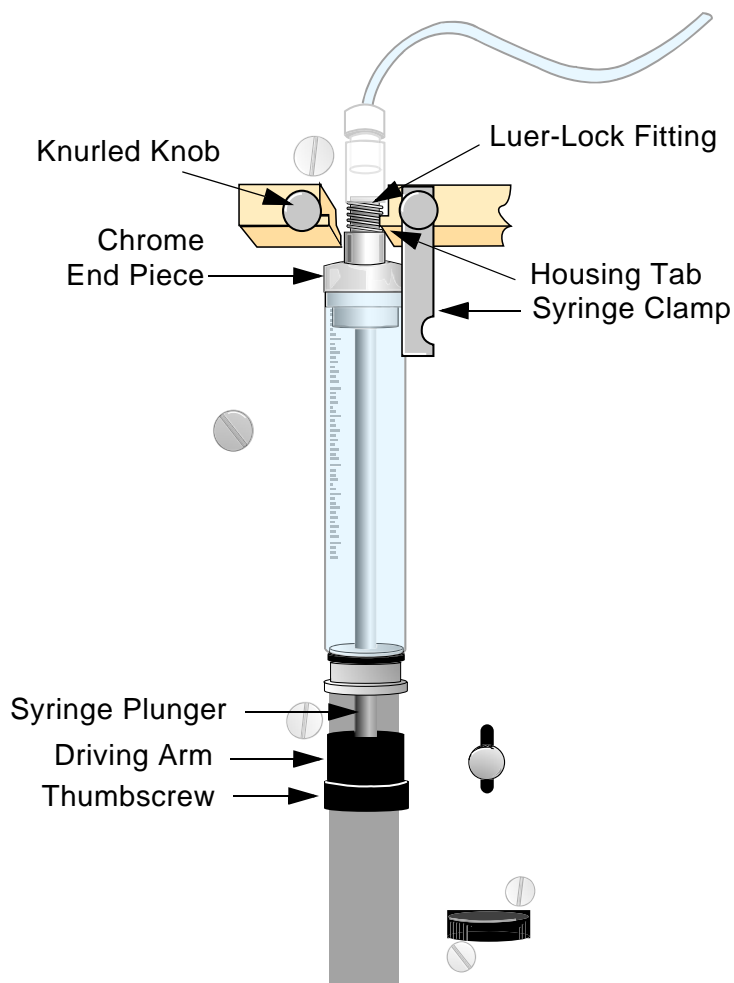

Figure 5-5. Syringe Clamp Knurled Knobs
1. Loosen the knurled knobs on both sides of the syringe clamp. Pivot the open end of the syringe clamp out of the way (see Figure 5-5).